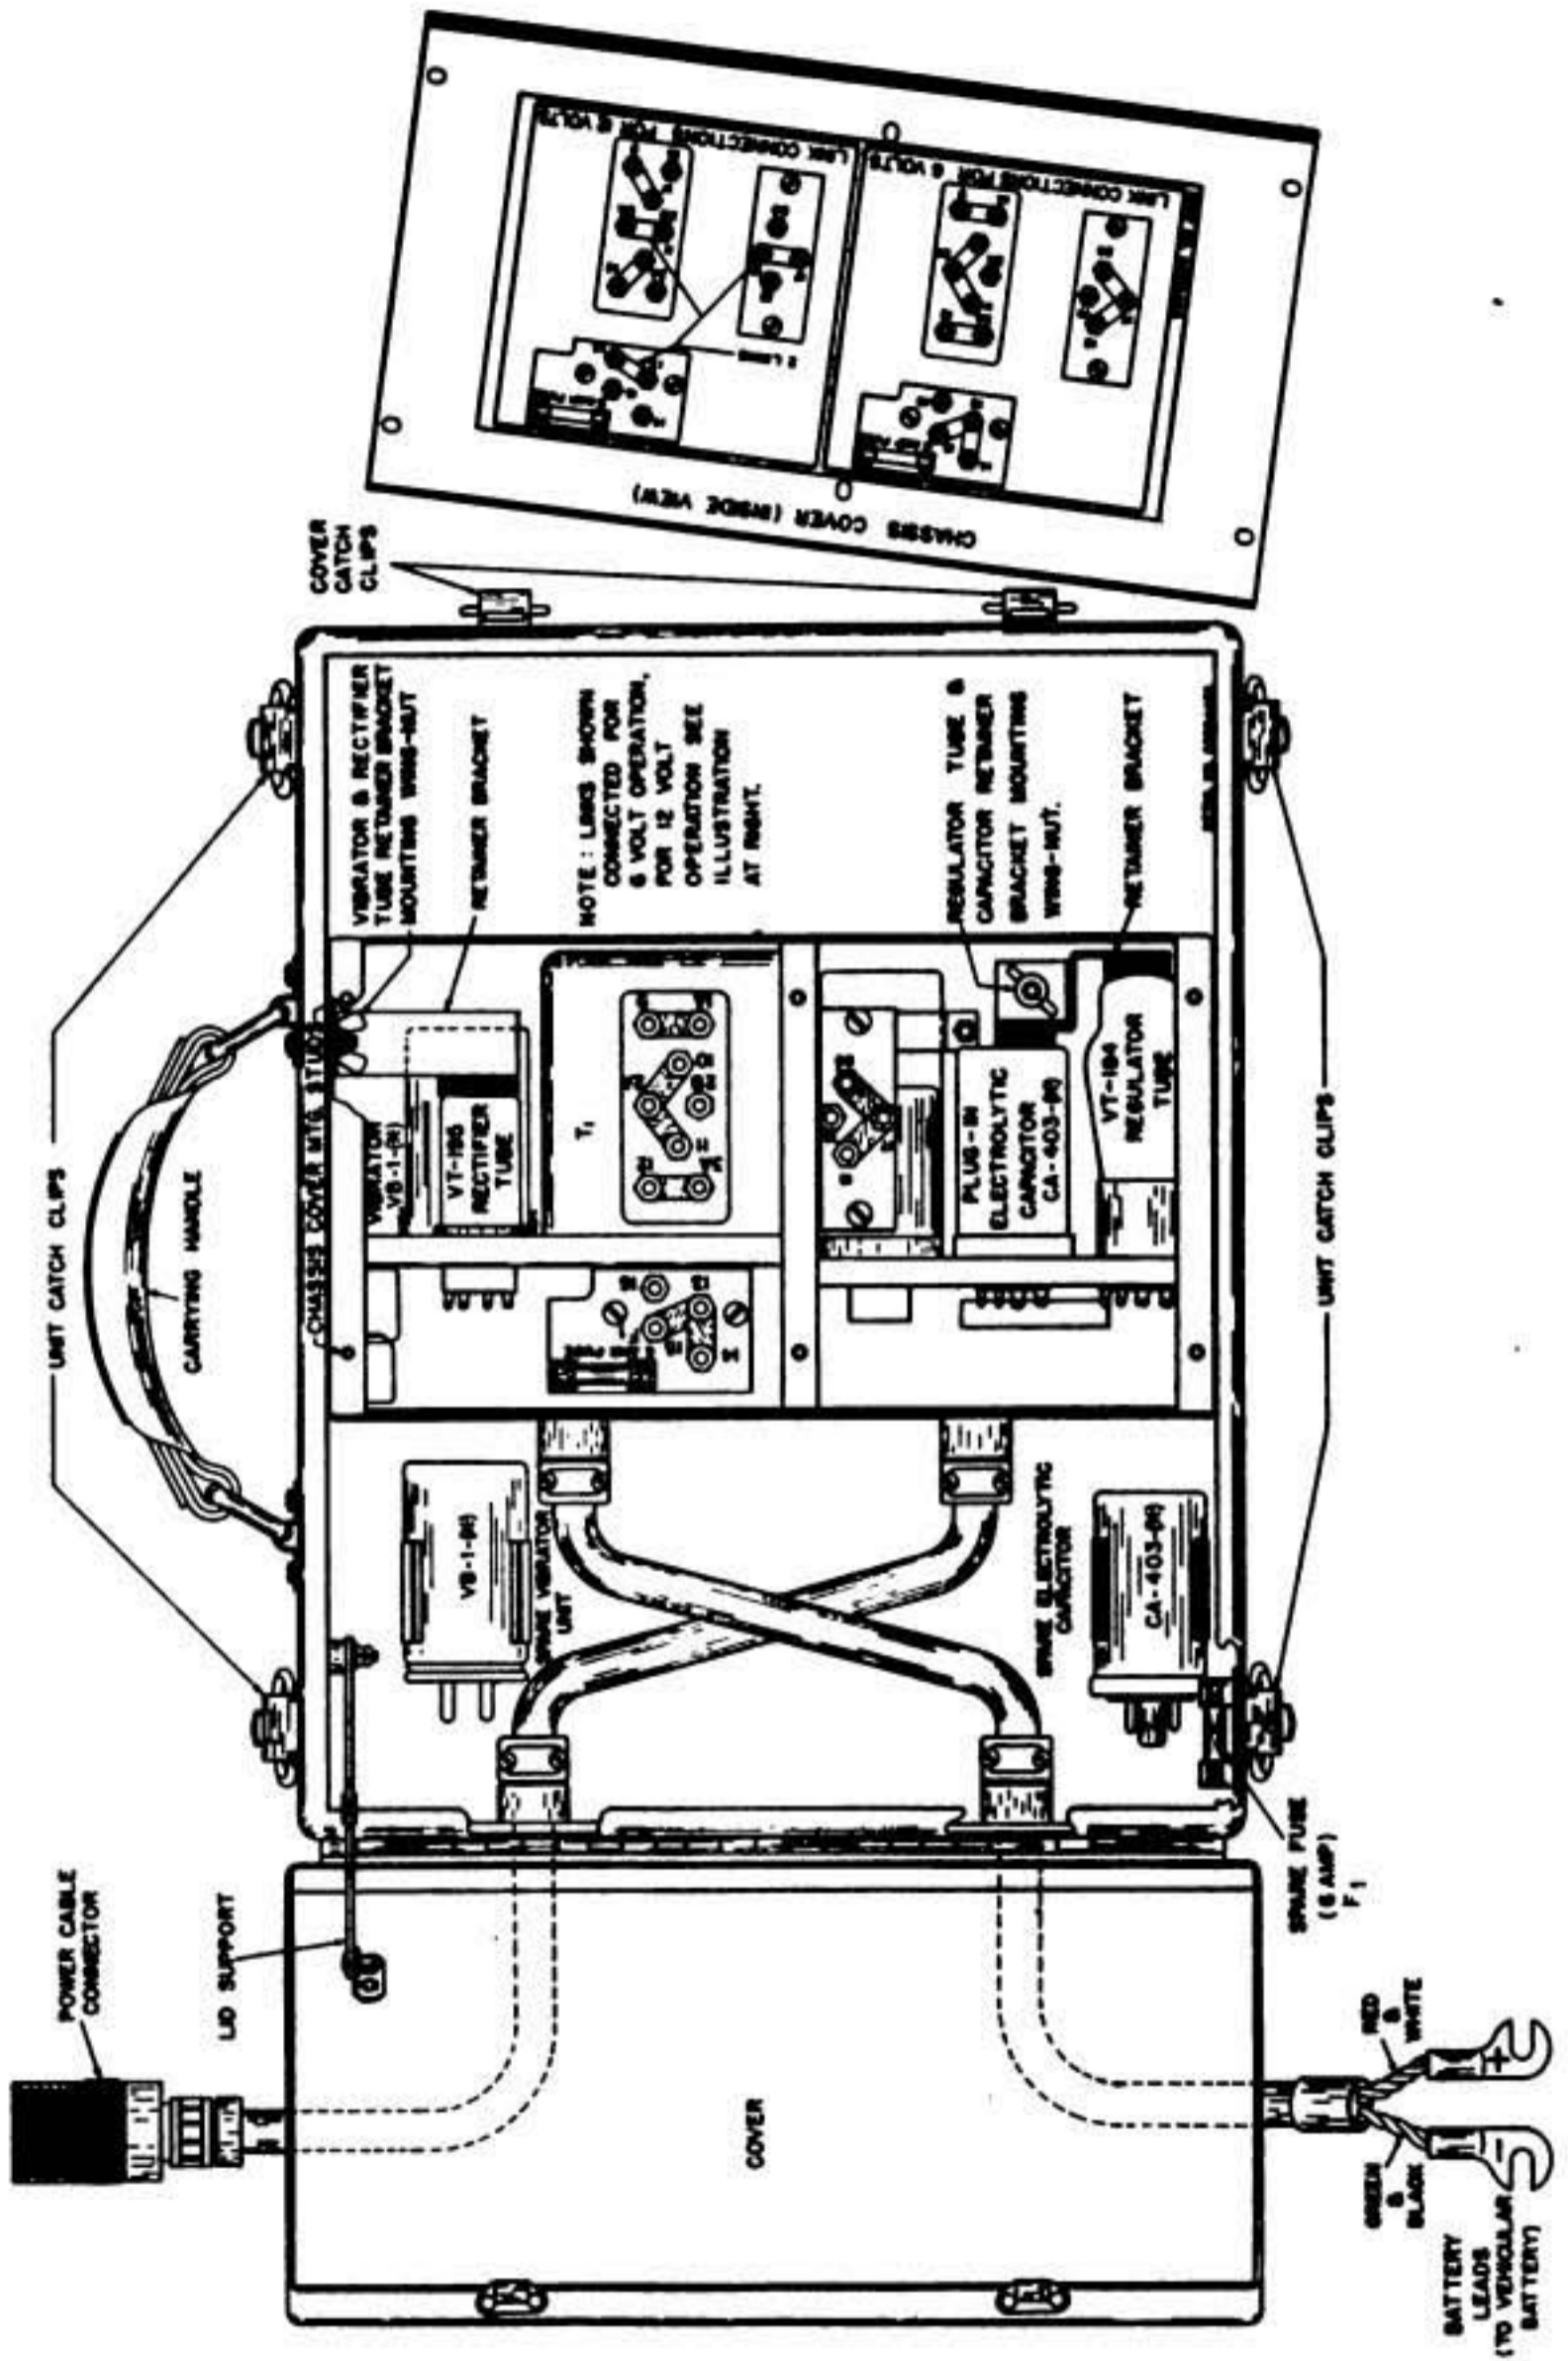

Figure 5. Plate Supply Unit PE-97-(*), Layout
For vehicular installation the connector and bondnut are used to bring the "A" battery lead from Plate Supply Unit PE-97-(*), through a metal wall. See Figure 5 for installation details.
supply is contained in a case with space provided for carrying Handset TS-13-(*); a coil of insulated Wire W-126, extension Cord CD-509; and also a spare Fuse FU-38, Vibrator VB-1-(*), and electrolytic Capacitor CA-403-(*). The vibrator and capacitor are of the plug-in type for quick and easy replacement. (See Figure 5.) (Issued only with Radio Sets SCR-510-A and SCR-510-B.)
The inside cover of the power pack of Plate Supply Unit PE-97-(*), has a label which shows the correct change-over link connections that are required to adapt the unit for operation from either 6-volt or 12-volt vehicular battery. (See Figure 5.)
(1) Open Plate Supply Unit PE-97-(*), unscrew the six knurled nuts and remove the power pack cover. Figure 5 shows an interior view of the case. Check to see that Vibrator VB-1-(*), rectifier Tube VT-195, voltage regulator Tube VT-184, electrolytic Capacitor CA-403-(*), and Fuse FU-38, are properly installed in their respective receptacles. Also make sure that spare Vibrator VB-1-(*), electrolytic Capacitor CA-403-(*), and Fuse FU-38, are, likewise, in their respective clips.
MAKE SURE THAT THE VOLTAGE CHANGE-OVER LINKS ARE SET FOR THE VOLTAGE OF THE VEHICULAR BATTERY. If a 12-volt vehicular battery is used with a power unit with links set for 6-volts, damage is sure to result. The correct position is shown on the label on the power pack cover. Place Handset TS-13-(*) in one of the storage compartments of Plate Supply Unit PE-97-(*), located at each end of the case as shown in Figure 5.
Turn the meter control switch to PLATE, press the push-to-talk switch, and read the panel meter. If it reads less than 2 (the luminous spot), it indicates a weak storage battery, or trouble in Plate Supply Unit PE-97-(*). Zero plate voltage may mean either a defective fuse, electrolytic Capacitor CA-403-(*), or Vibrator VB-1-(*). A spare of each of these is carried in the case of Plate Supply Unit PE-97-(*). To replace any of these, refer to Figure 5. Remove the cover of the vibrator pack to replace any of the above three parts. Replace the spare parts removed from the unit with new spares at the first opportunity. Turn the switch to FIL and read the meter. It should not be less than 2 (the luminous spot). A lower reading indicates low storage battery voltage, or failure of the vehicular battery.